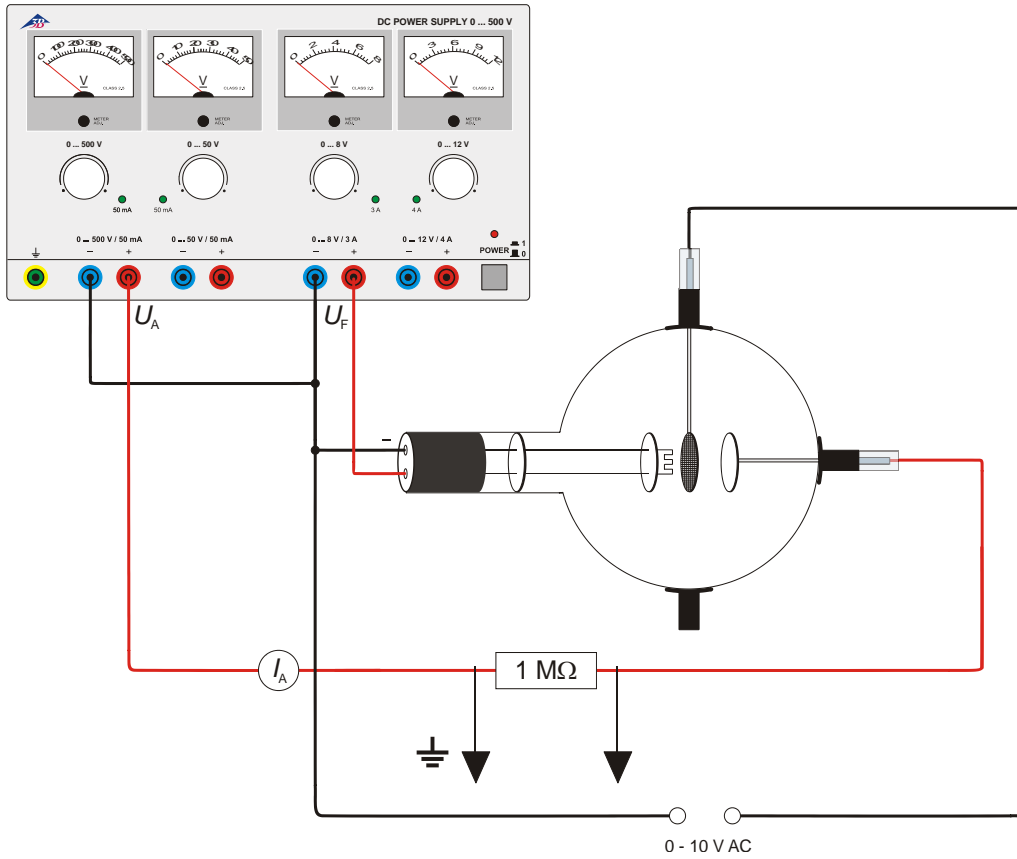

Fig. 4 Triode amplifier
- Set up the circuit as in Fig. 4. Connect the minus pole of the anode voltage to the 4-mm socket marked with a minus.